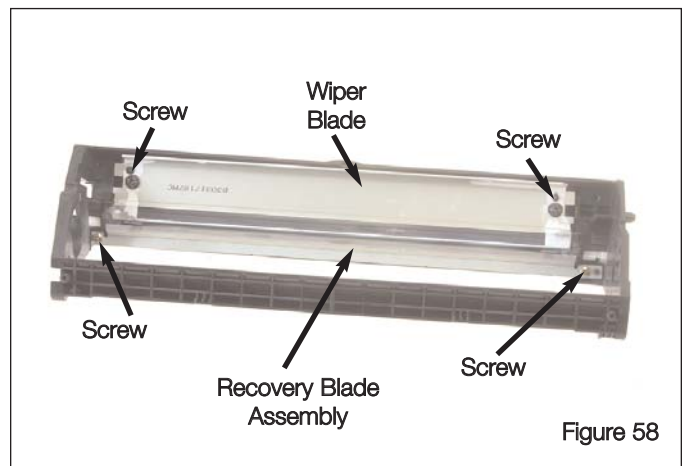

Figure 58
5. Remove the flat cap screws from the Wiper Blade; then, remove the Wiper Blade (Figure 58).
6. Remove the Recovery Blade Assembly (Figure 58).
7. Clean the Imaging Unit with dry, compressed air (Figure 58).